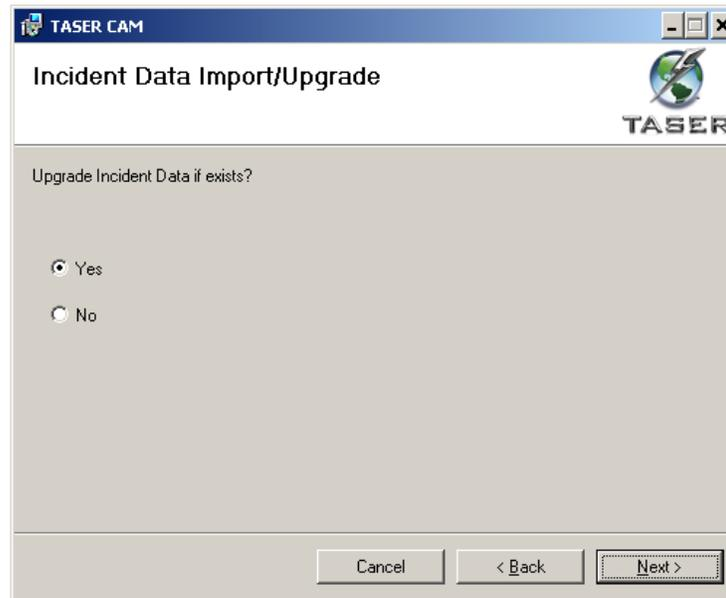

Figure 4
6. Click **Next**. The Incident Data Import/Upgrade dialog box displays (Figure 4).